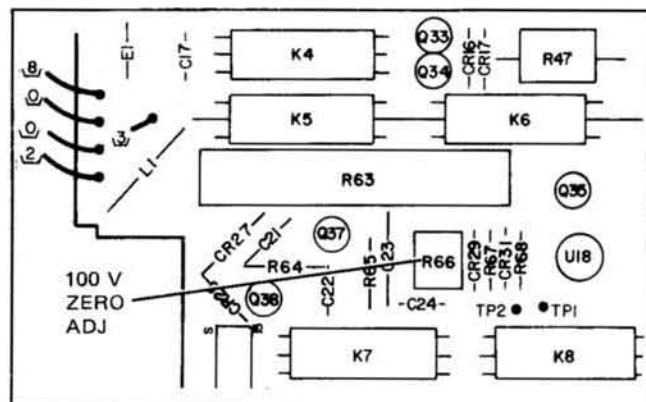

Figure 5-1. 100 Volt Zero Adjustment.
c. Set the test DVM to measure dc volts (autorange). Connect the DVM's low input to the A10 board ground test point and the high input to A10T01 (Figure 5-1).
d. Adjust A10R66 (Figure 5-1) for a DVM reading of  $0\text{ V} \pm 50$  microvolt. Disconnect the test DVM.